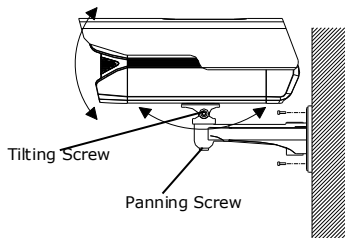

Figure 2-6 Adjust the Monitoring Angle
4. Loosen the panning screw and tilting screw of the mount as shown in Figure 2-6.